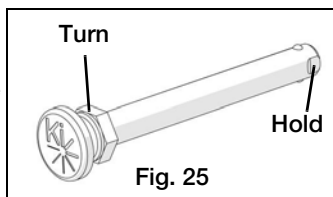

Fig. 25
2. Removing Wheels (Fig. 25)
3. Adjusting Axles (Fig. 25)